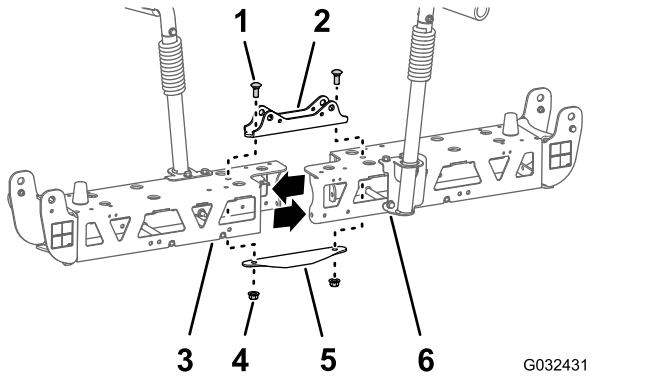

Figure 75
- Remove the 2 carriage bolts (1/2 x 1-1/4 inches) and 2 locknuts (1/2 inch) that secure the narrow cylinder mount, left and right truss frames, and narrow tie plate (Figure 75).